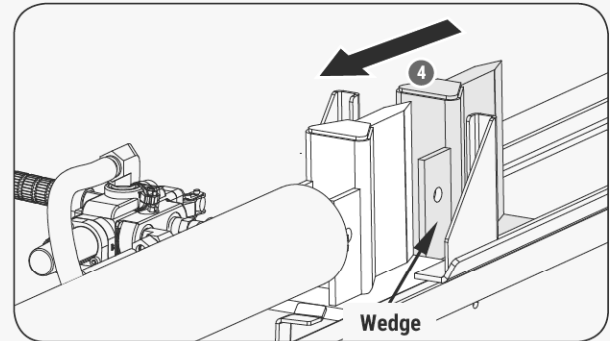

Figure 18b
2. Pull the wedge back. (See **Figure 18b.**)